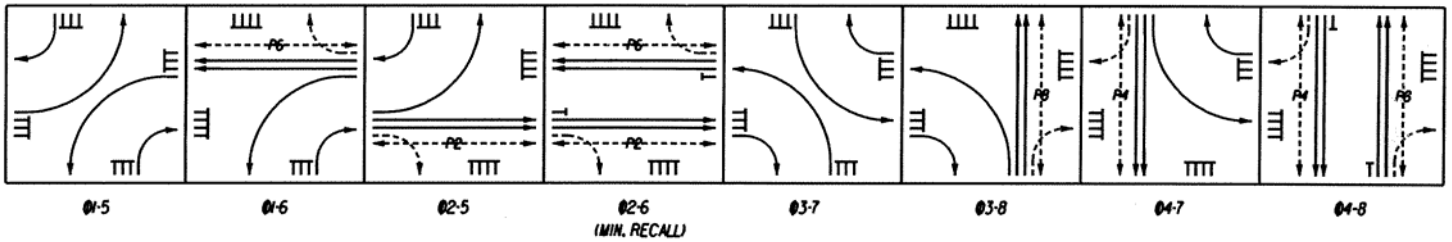

Figure 4-7: PHASING DIAGRAM
Develop a Phasing Diagram as shown in Figure 4-7.
- Figure 4-7 represents an 8-phase signal operation with protected only left turns and right turn overlaps.